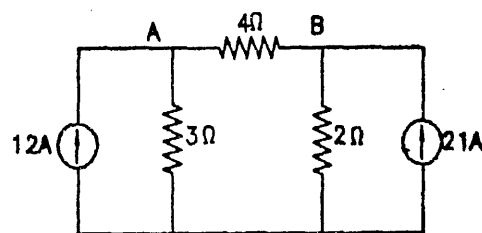

FIG. 1.188 : REFERENCE FIGURE FOR PROBLEM NO. 11
11. Using superposition theorem, determine the current in 4 Ω resistor in the given circuit of Fig. 1.188. [0.66 A from B to A]